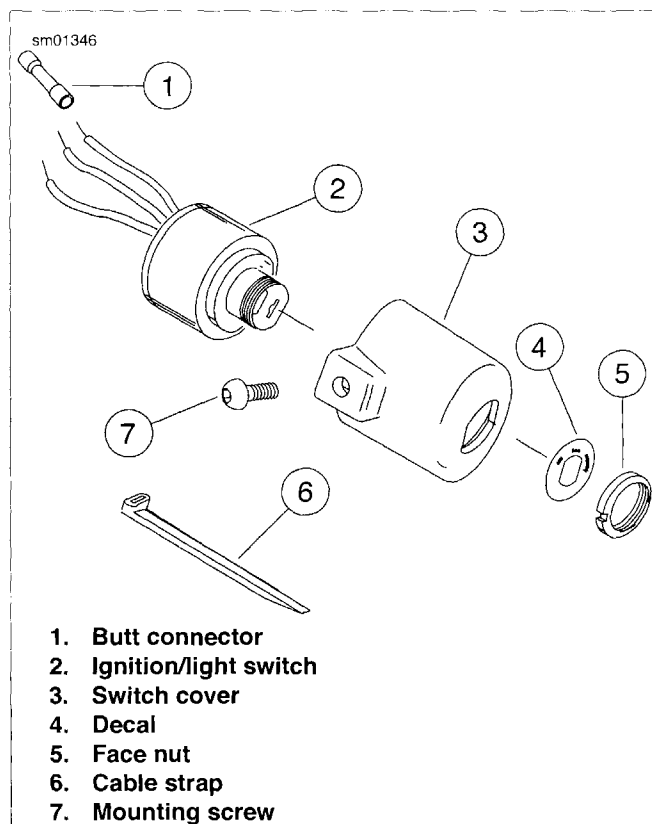

Figure 6-33. Ignition/Light Switch Assembly
3. See Figure 6-33. Remove ignition switch face nut (5).
6. Remove mounting screw (7). Remove switch cover (3). Remove switch (2) from switch cover (3).
4. See Figure 6-33. Insert ignition switch into hole of switch cover. The word "TOP" stamped on the switch body should face upward toward the lettering on the switch position decal. Loosely install face nut (5).
5. Install and tighten mounting screw (7) to 35-45 **in-lbs** (4.0-5.1 Nm).
6. Tighten face nut (5) to secure switch (2) within cover (3).
7. Using **new** cable strap (6), secure ignition switch harness to wire harness caddy.